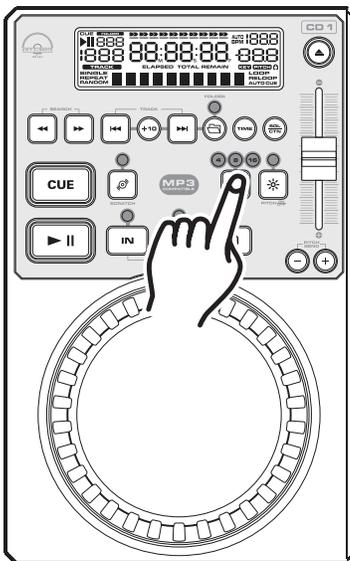

Figure 26
Adjusting the PITCH SLIDER'S RANGE: You may change the *PITCH SLIDER'S* (5) operating range at any time. To change the operating range be sure the pitch function is turned on, see figure 24. The pitch percentage can be changed between +/-4%, +/-8%, +/-16%, & 100%. 4% will allow the least amount of pitch manipulation and 100% will allow the most amount of pitch manipulation. To adjust the different ranges, press the *PITCH ON/OFF BUTTON* (6) and tap on the *PITCH RANGE BUTTON* (7) until your desired value is reached, see figure 26. **Note: 100% Pitch Adjustment works with CDs only, not Mp3 CDs.**